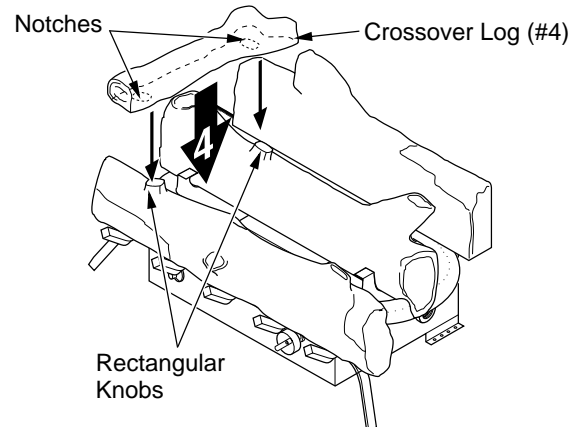

Figure 22 - Installing Crossover Log (#4)
- Locate the notches in the bottom of the crossover log (#4). Place the crossover log on top of the middle log and front log. Make sure the notches of the crossover log lines up with rectangular knobs on top of the middle and front logs (see Figure 22).